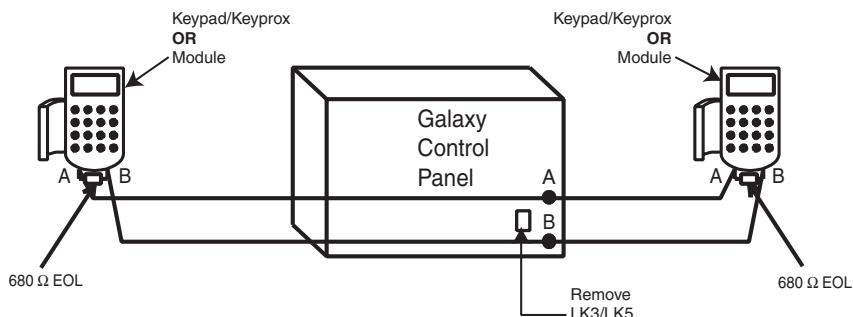

Figure 2-9. Twin AB Line Daisy-Chain configuration
5. The RS485 (AB) line must have a 680Ω resistor fitted across the A and B terminals of the last module on the line. If twin lines are connected, both ends must be terminated with 680Ω resistors and the appropriate link on the control panel PCB must be removed (refer to figure 2-9).